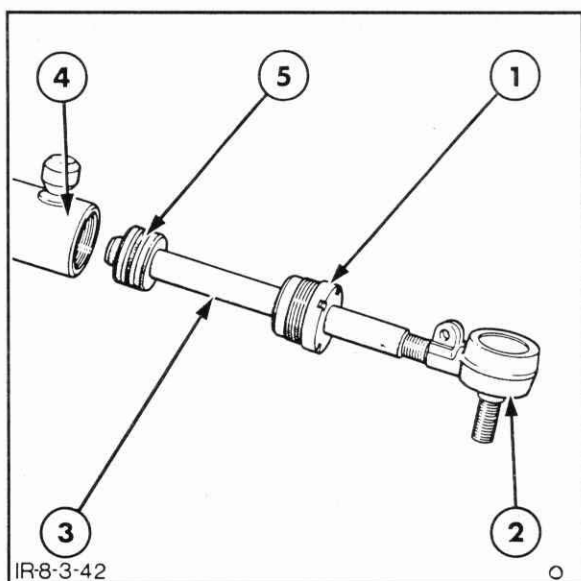

Figure 7-105
1. Unscrew the gland from the cylinder and withdraw the cylinder rod and piston assembly, Figure 7-105.